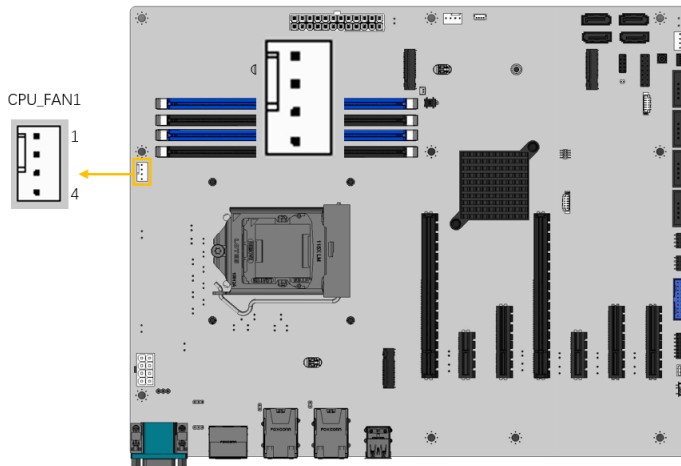

Figure 3-11: CPU Fan Connector Location
- CN Pinouts:** See Figure 3-11
- CN Location:** See **Figure 3-11**